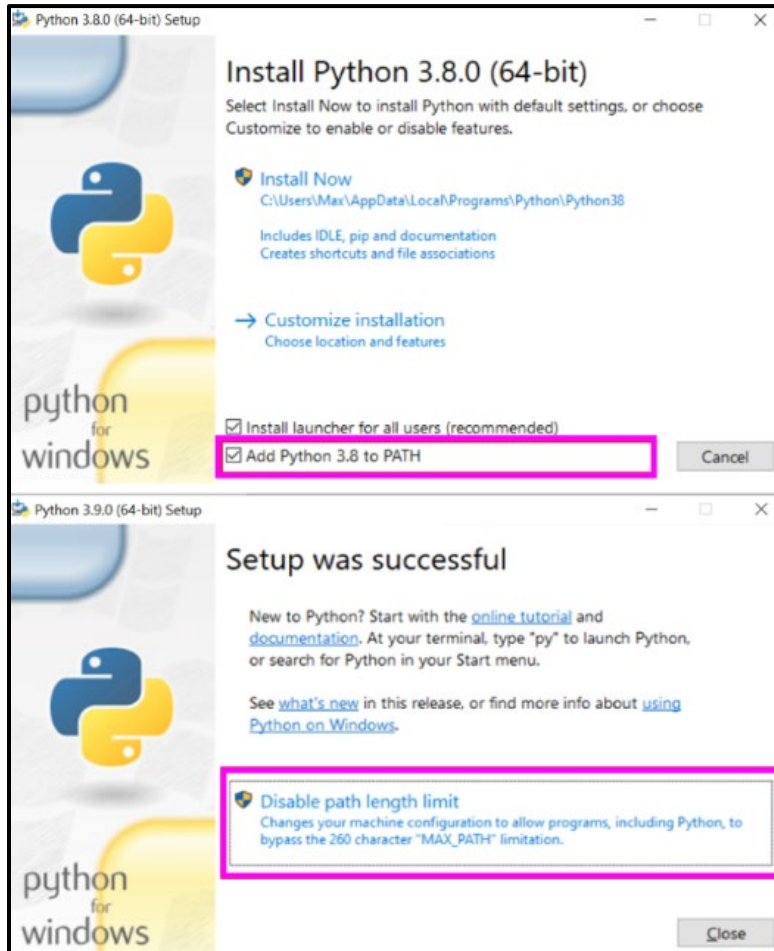

Figure 114. Example of prompts and options to be selected when installing Python.
2. When installing Python, select Add Python to PATH and select Disable PATH length limit before leaving the setup prompts (Figure 114).